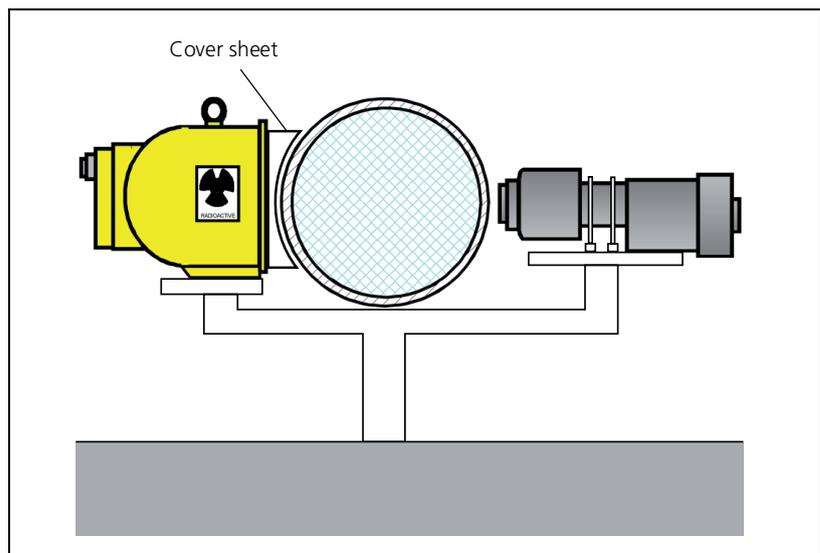

Fig. 2-5 External installation of shielding and detector
- A thermal insulation consisting of glass or rock wool is unsuitable for installation, as it does not ensure safe installation of the measuring system. If, for technical reasons, thermal insulation at the measuring point is required, it must be made of a hard, non-hygroscopic material, i.e. aluminum silicate or it must not be installed directly on the pipeline, but on separate supports (see Fig. 2-5).